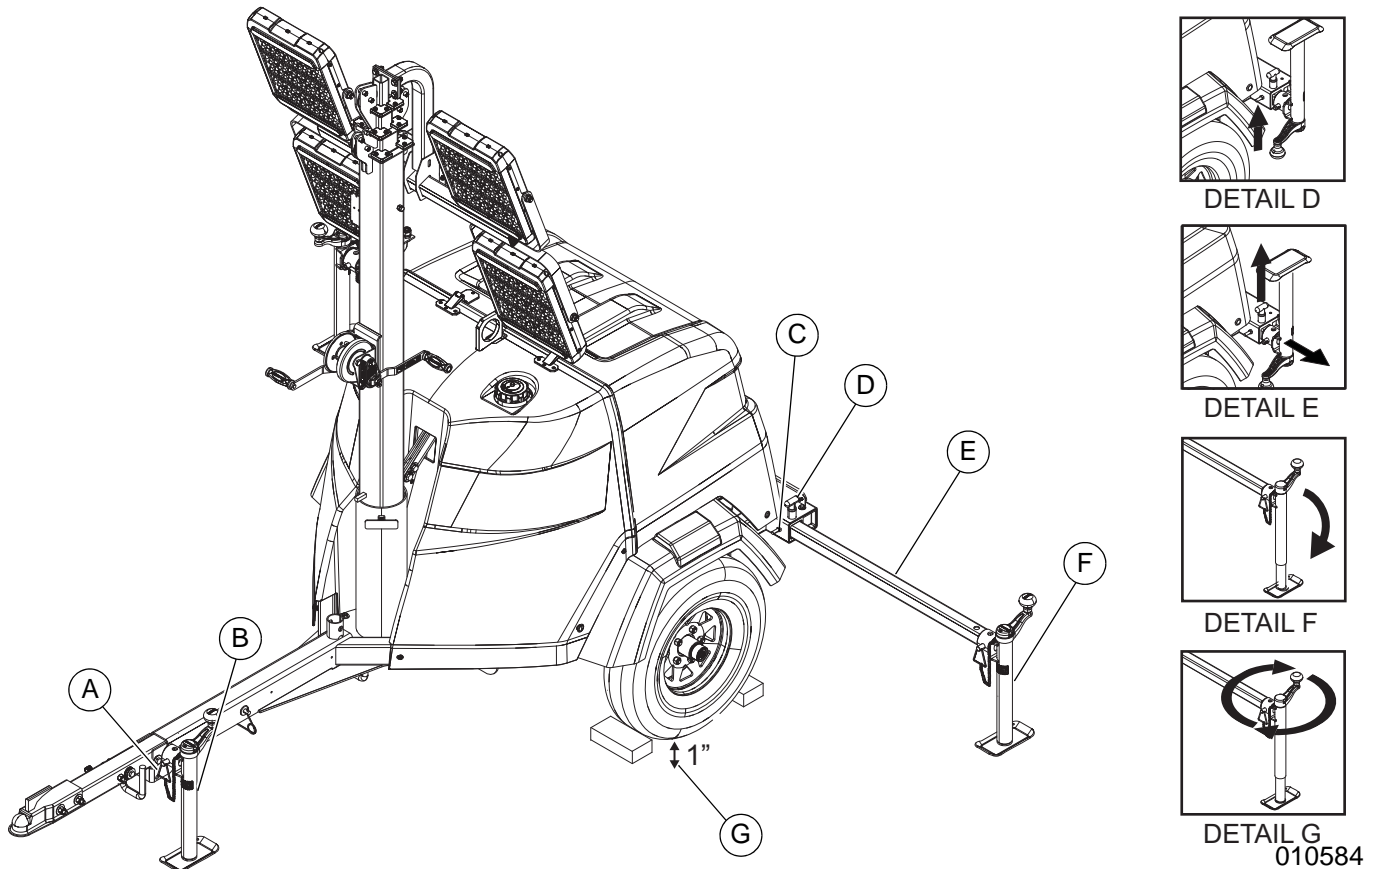

Figure 3-1. Setup Components
2. See Figure 3-1. Place the unit on firm ground that is relatively flat (less than 5° slope), and block the